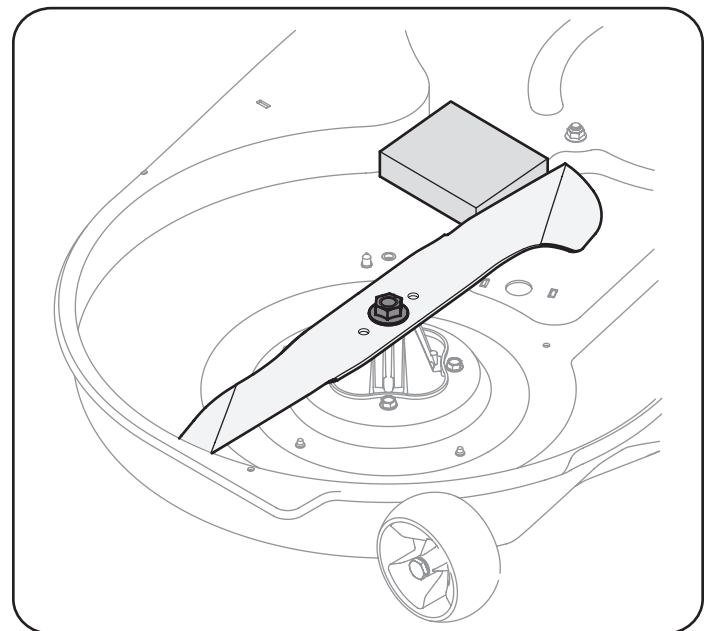

Figure 15
2. Place a block of wood between the center deck housing baffle and the cutting blade to act as a stabilizer. See Figure 15.
- Remove the hex flange nut that secures the blade to the spindle assembly. See Figure 15.